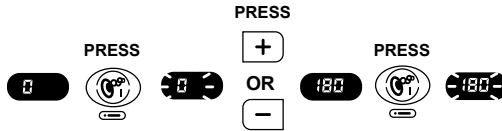

Figure 3
- B. Press the **Warmer** () button to scroll through the Primary Filtration cycles. After the last cycle, “PF8,” the LED screen will display the number of days remaining or zero, Figure 3.